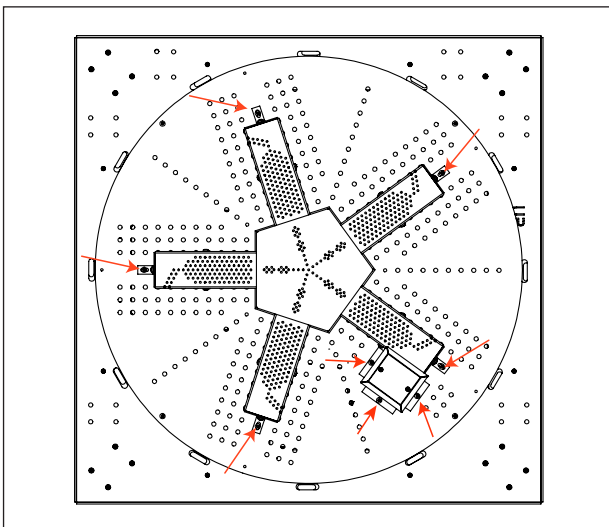

Figure 10: Burner Removal
- a. Remove five (5) T-20 screws on end of each burner arm. (See Figure 10).
- a. Remove three (3) T-20 screws securing the pilot mount on the media tray (See Figure 10). Put the cover to the side.